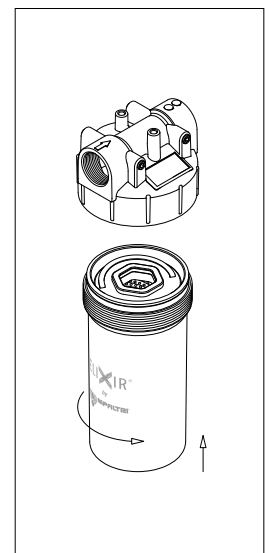

fig. 6
- (Fig. 6) Fit the filter element on the tap and screw the bowl in referring to the tightening torque table in paragraph 3. Pay attention not to damage the seals